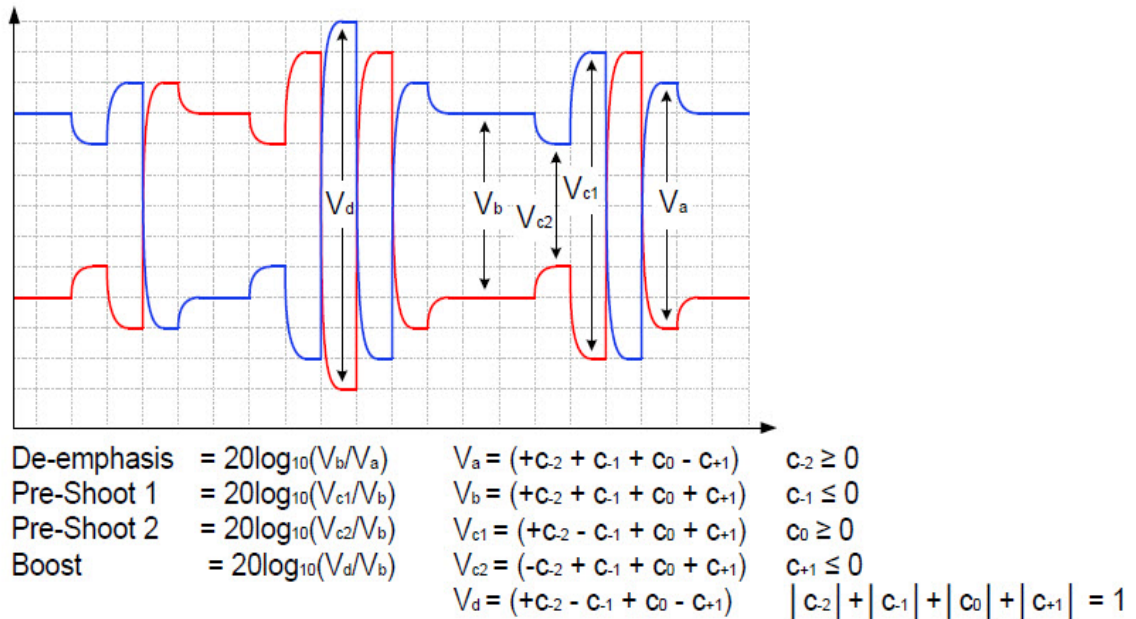

Figure 39 Waveform measurement points for preshoot and de-emphasis
64.0 GT/s PCIe signaling must support the full range of presets given in Table 8-2 (PCI Express Base Specification Revision 6.0). Presets are defined in terms of ratios, relating the pre-cursor and post-cursor equalization voltages. The pre-cursor (V_c) is referred to as pre-shoot, while the post-cursor (V_b) is referred to as de-emphasis. This convention permits the specification to retain the existing 2.5 GT/s and 5.0 GT/s definitions for Tx equalization, where only de-emphasis is defined, and it allows preshoot and de-emphasis to be defined such that each is independent of the other. The tolerances in Table 8-1 (PCI Express Base Specification Revision 6.0) also apply to 2.5 and 5.0 GT/s de-emphasis. The maximum swing, V_d , is also shown to illustrate that, when both c_{+1} and c_{-1} are nonzero, the swing of V_a does not reach the maximum as defined by V_d . The high frequency nature of PCIe signaling makes measurement of single UI pulse heights impractical. Consequently all amplitude measurements are made with low frequency waveforms as shown in Figure 39.
- 13 Computes their equalization voltages by using Matlab, and then calculates equalization ratios by using the formulae stated in Figure 39 (Figure 8-6 of the spec).